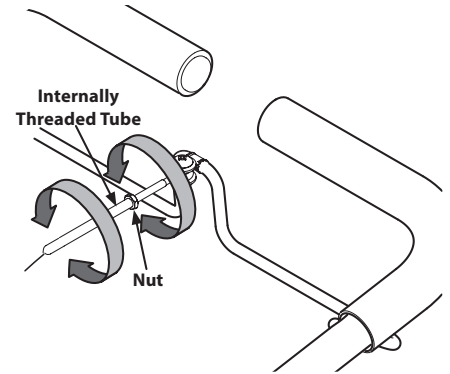

Figure 11
6. Carefully engage the clutch by lifting the clutch control bail against the handle. The wheels should spin. If the wheels do not spin with the tiller in forward, adjust by unthreading the tube at the end of the cable a few turns counter-clockwise, when standing in the operator's position. See Figure 11.